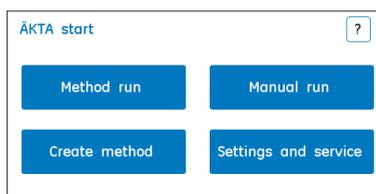

Fig 2. ÄKTA start display: Screenshot of the main menu.
- b. From ÄKTA start instrument home screen (Fig 2), tap **Method Run**